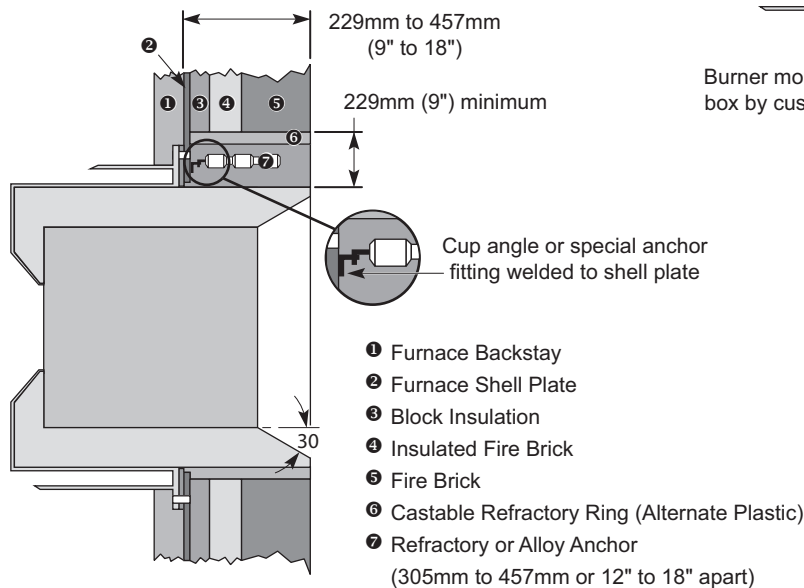

Figure 3.8. Vortometric Burner Mounting Arrangements
- The inside diameter of the combustion block is concentric with the air cone in the burner. Refer to Figure 3.8 for wall interference, and typical refractory installation details and recommendations.